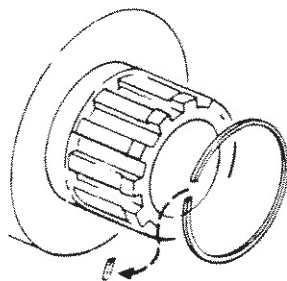

FIGURE 2
**Note:** If a 12R Ridge drop head is used, a 1/4" segment of the snap ring must be removed (Fig. 2) to provide an opening for the Amaz-O-Thred drive key.